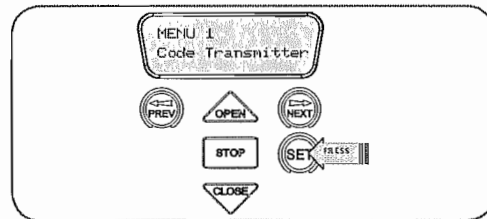

fig 31
1. Press NEXT to navigate to the Menu 1 "Code Transmitter" (Fig.31).